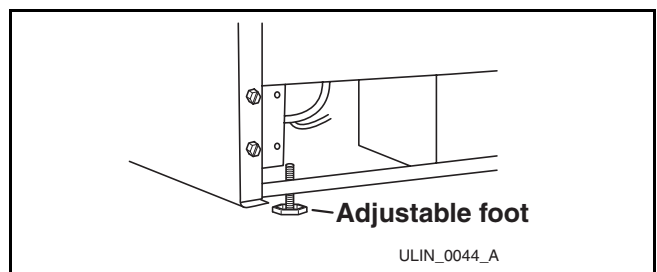

Figure 28
5. If the unit is not level, adjust the feet on the corners of the unit as necessary (Figure 28).